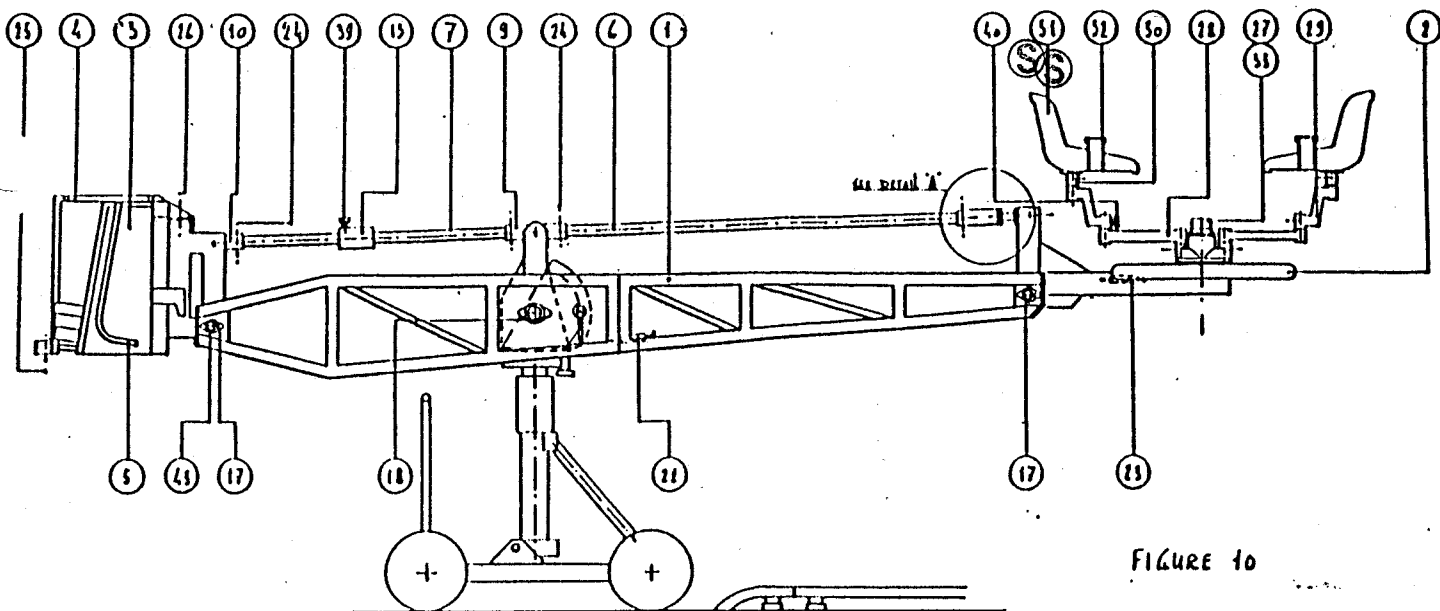

FIGURE 10
After you have completed the perfect balancing of the crane secure the weights by folding the weightlock no. 4 down and lock it with the push pin (see figure 10)
1. Position the dolly in front of the startertrack with the rearside in the direction of the track.(see figure 10)